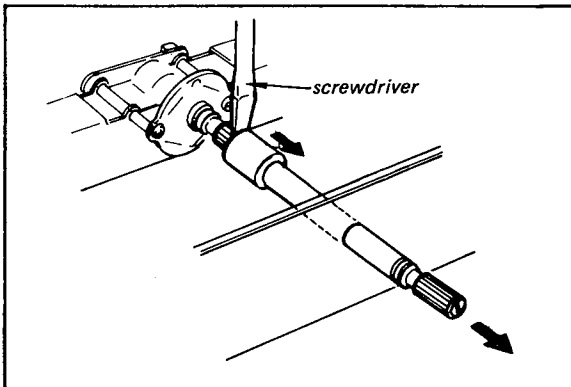

Fig. 2-9. Switch shaft removal
2. Pull out the shaft of the defective switch with a screwdriver as shown in Fig. 2-9.